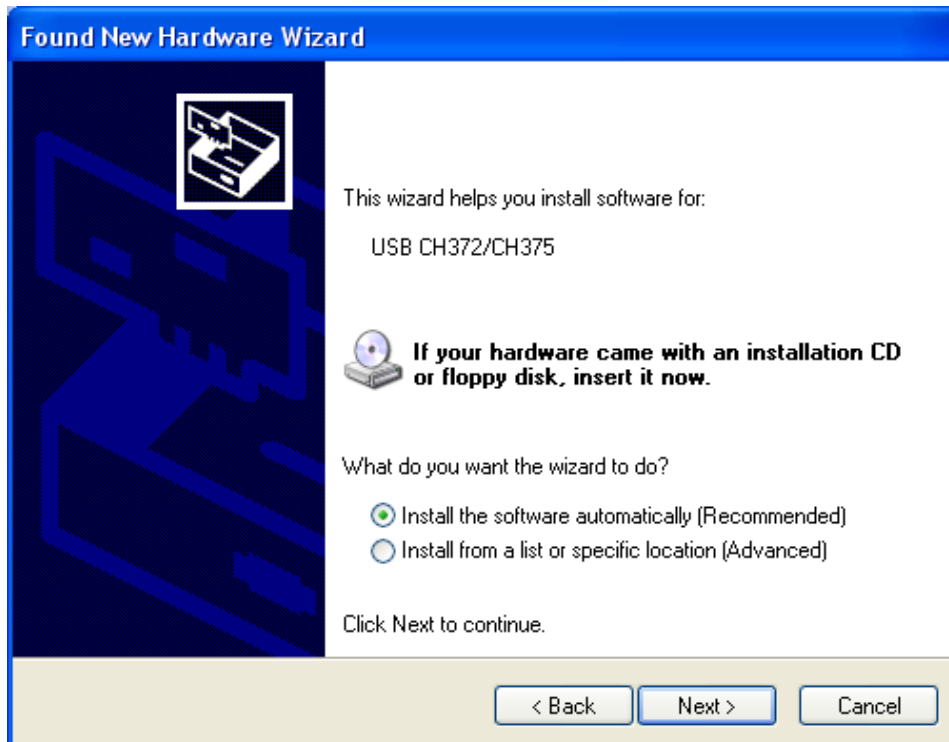

Figure 1-15
Then a “hardware update wizard” dialog box will pop up on the desktop, as shown in Figure 1-15.
3. In the new hardware wizard dialog box in Figure 1-15, select the “Install the software automatically” option, then click **NEXT** to enter the automatic driver